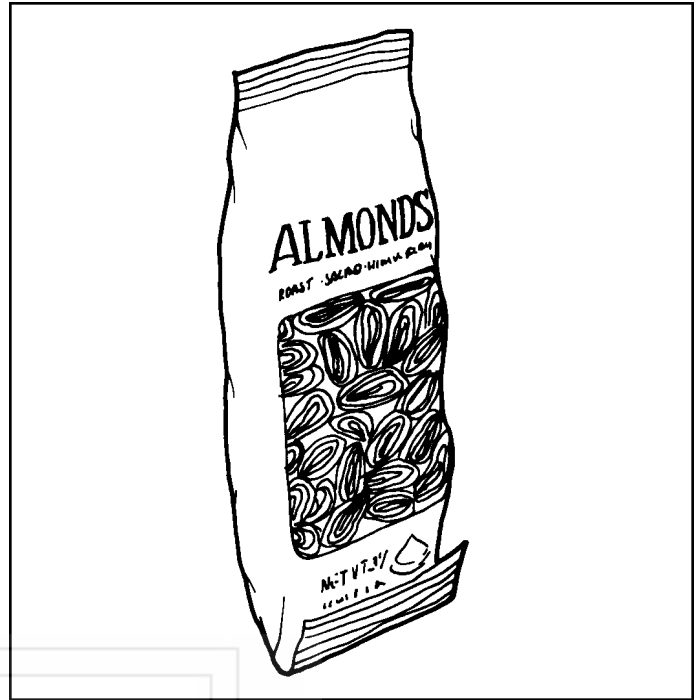

Figure 8. Folded bagged items bottom edge forward and up.
9. **Bagged or Boxed Items** in the 8-selection shelves, if not loaded properly, could be a problem. The sealed edge of the bag may get under the spiral wire causing the product to hang up after it has been vended. It is recommended that the lower edge of these types of product be folded forward and up (Figure 8.) next to the product before inserting into the spiral space. It is also recommended to use an 18 count spiral for bagged items because of the product settling to the bottom of the package.